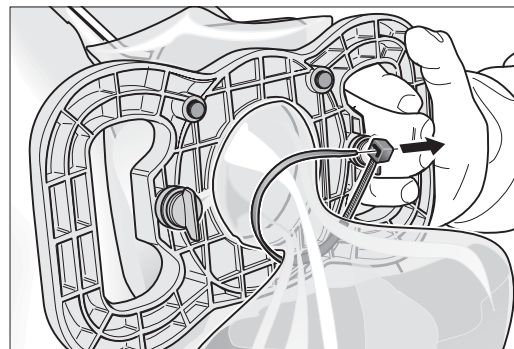

Fig. 21 Seal the waste bag using a cable binder.
- 14 Seal the filled waste bag before removal using the cable binder provided (Fig. 21).